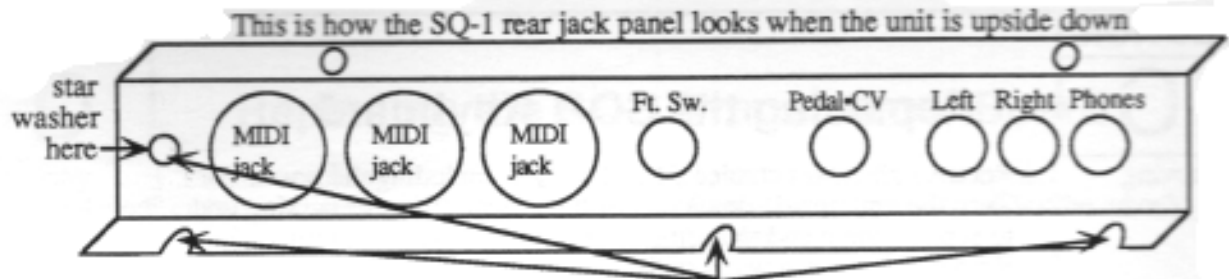

Figure 13 – To remove the SQ-1 rear jack panel, remove these screws
9. If this is a problem, you can remove the rear jack panel (see Figure 13) and attach the main board to it first (using the jack nuts). Then, install the main board along with the rear jack panel assembly.
6. Remove the rear jack panel and the rear power panel (see Figures 13 and 15).
8. Remove the twelve (12) screws (Phillips head or hex-head) that hold the Keypad/Display board in place and carefully slide it out from under the main board mounting bracket. Note that there are two pins which are used to align the board to the case.
10. Use the alignment pins to line up the Keypad/Display board. Install the twelve (12) Phillips head or hex-head screws (use no more than 8 in/lbs of torque).
13. Attach both back panel pieces to the unit (see Figures 13 and 15).